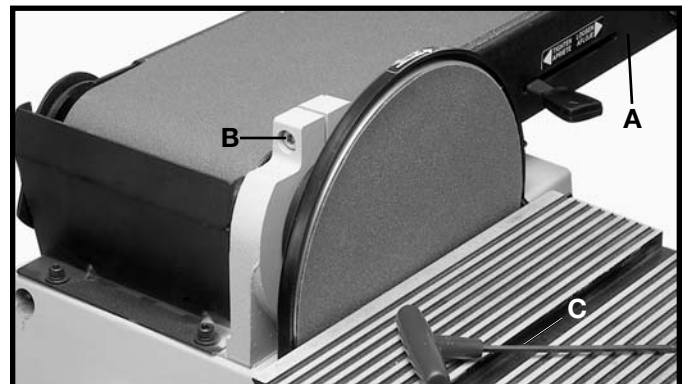
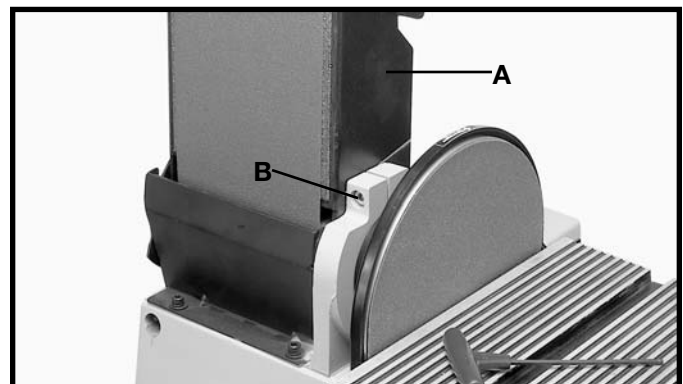

Fig. 22
Fig. 23
The sanding arm (A) can be used in the horizontal position, as shown in Fig. 22; vertical position, as shown in Fig. 23; or any angle in between by loosening screw (B) with hex wrench (C) supplied, positioning the arm (A) to the desired angle, and tightening screw (B).